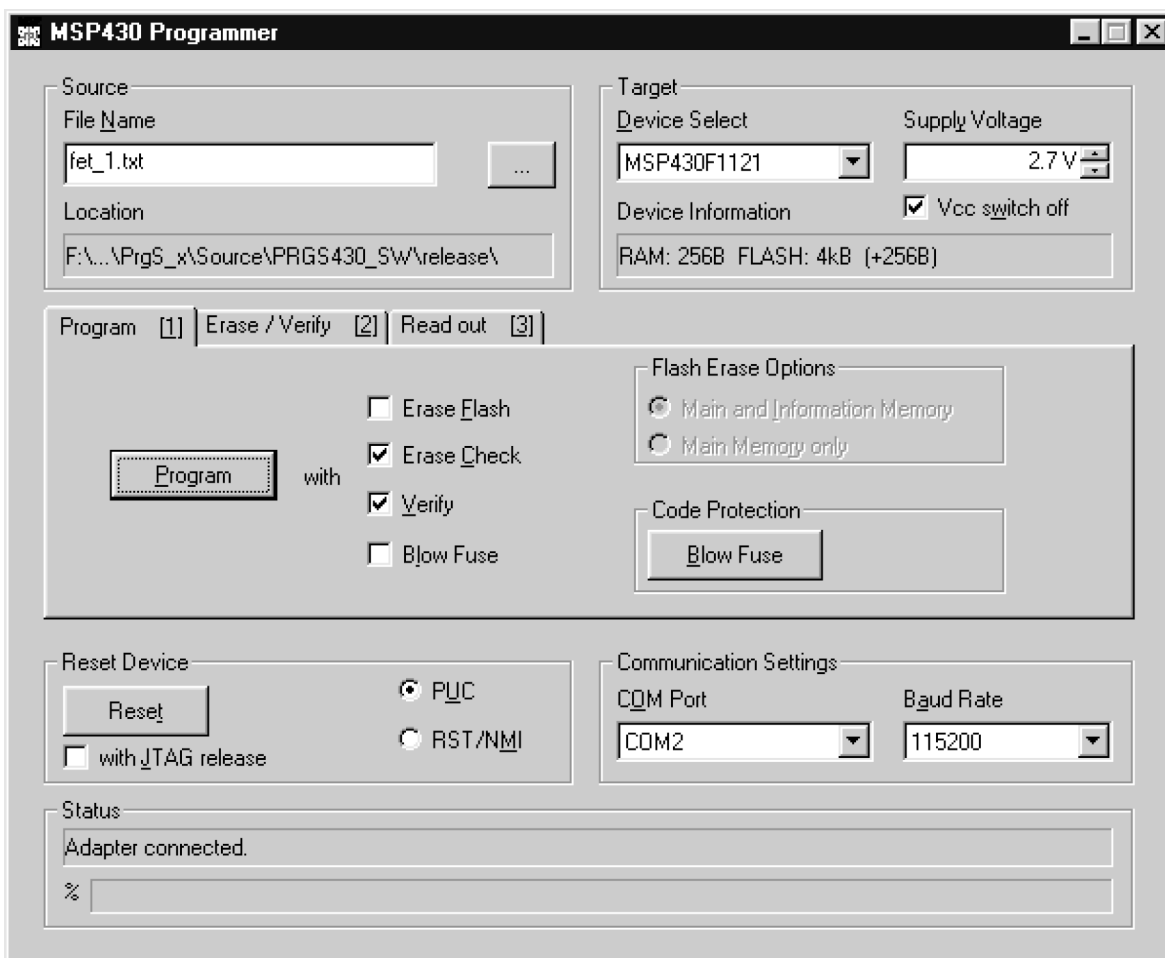

Figure 4. MSP430 Programmer Dialog Box
1. Click the Program Device icon during the installation-selected program group (default: ADT430). The MSP430 programmer dialog box appears. The status line at the bottom of the window shows the actual or the most recent activity (see Figure 4). The status line displays the message "Connecting to adapter..." until the programming adapter is detected and the baud rate is set.
5. Click the Program button to start programming. The status line at the bottom of the window shows the actual or most recent activity (see Figure 4).
1. Select the file that contains the data to program from the MSP430 programmer dialog box (see Figure 4).